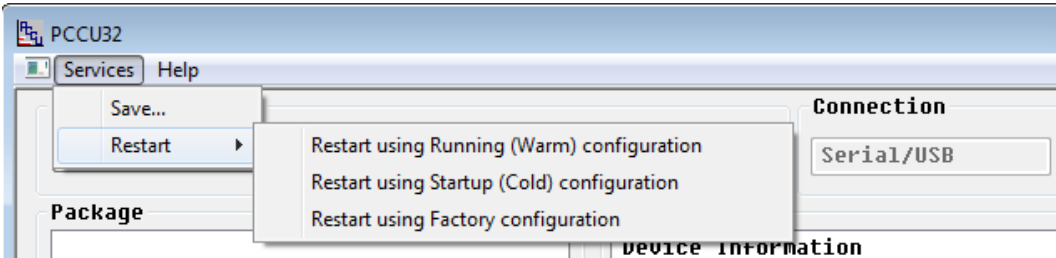

Figure 88: Restore factory configuration
- 5. Click **Services** in the menu bar, **Restart** option, and **Restart using Factory configuration** option (Figure 88).